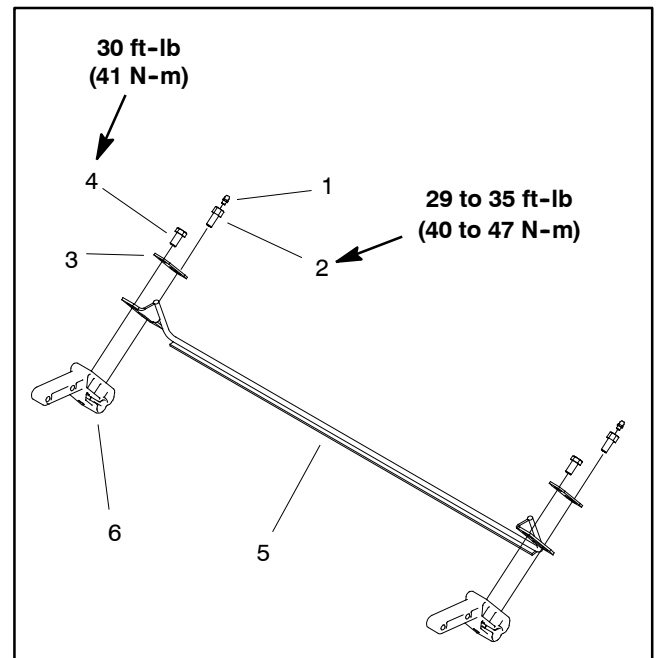

Figure 11
2. If cutting deck is equipped with a roller scraper (Fig. 11), remove fasteners securing left and right scraper rod brackets to roller mounts. Remove scraper rod assembly.
3. Remove four (4) flange head screws securing roller mounts to rear of deck frame. Remove roller mounts and rear roller assembly from deck frame.
2. Install roller and roller mount assembly into rear of deck frame. Secure assembly to deck frame with four (4) flange head screws.
5. If equipped with scraper rod, install and adjust scraper rod assembly to roller mounts (Fig. 11). The gap between the scraper rod and roller should be from 0.020 to 0.040 in (0.5 to 1.0 mm). Torque cap screws **30 ft-lb (41 N-m)**.
6. Install and tighten fasteners that secure each end of roller to roller mounts. Torque roller shaft screws (item 4) and cap screws (item 8) from **29 to 35 ft-lb (40 to 47 N-m)**.